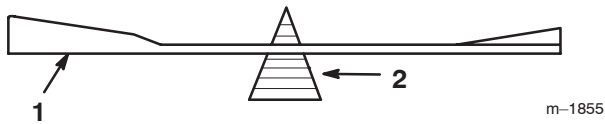

Figure 30
2. Check the balance of the blade by putting it on a blade balancer (Fig. 30). If the blade stays in a horizontal position, the blade is balanced and can be used. If the blade is not balanced, repeat the sharpening procedure on the heavier side until the blade is balanced.